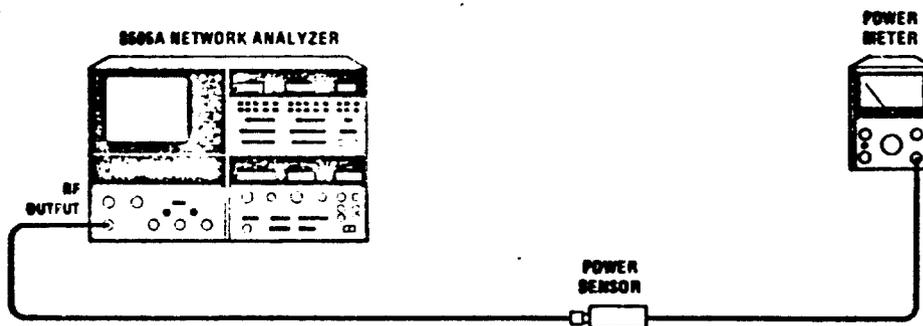

Figure A4-4. Output Leveling Test Setup
b. Connect equipment as shown in Figure A4-4.